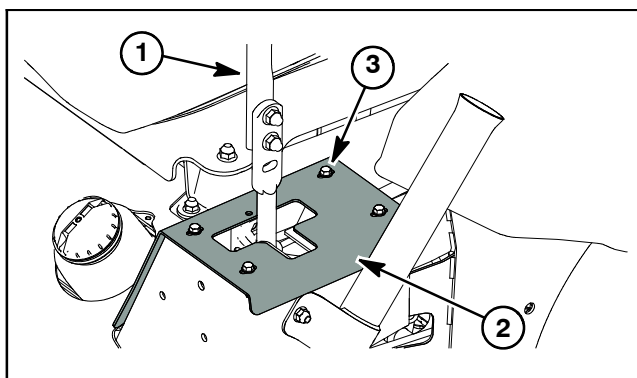

Figure 34
A. If needed, control cover can be removed to access control components for disassembly (Fig. 34). Remove four (4) flange head screws and lift control cover from machine.